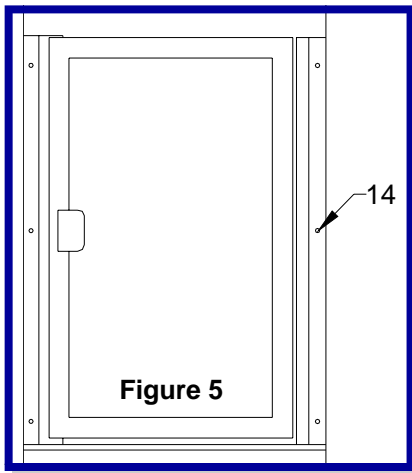

Figure 5
- From inside the shower, secure strike jamb (7) to wall channel by drilling  $3/32$ " holes approximately  $3/8$ " from each end & in the center.
- Secure with #6x $1/2$ " PH SMS screws (14).
- Secure hinge jamb (8) to wall channel (6) by drilling  $3/32$ " holes approximately  $3/8$ " from each end and in the center. **(See Figure 5)**